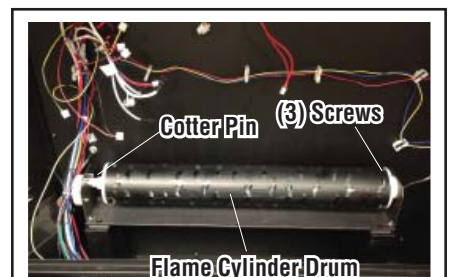
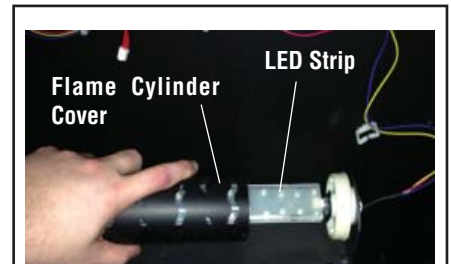

Figure 17
Figure 18
- iii. Locate flame cylinder drum (see Figure 17). Locate the cotter pin on left side of flame cylinder and remove it. Remove outer plastic sleeve of drum by removing the (3) screws on the right side of the sleeve. Disconnect the left side of the flame cylinder drum from the motor, and slide the outer sleeve off. you will have access to the LED strip (see Figure 18). **NOTE: do not exert excessive pressure on the drum cylinder as this may cause damage.**